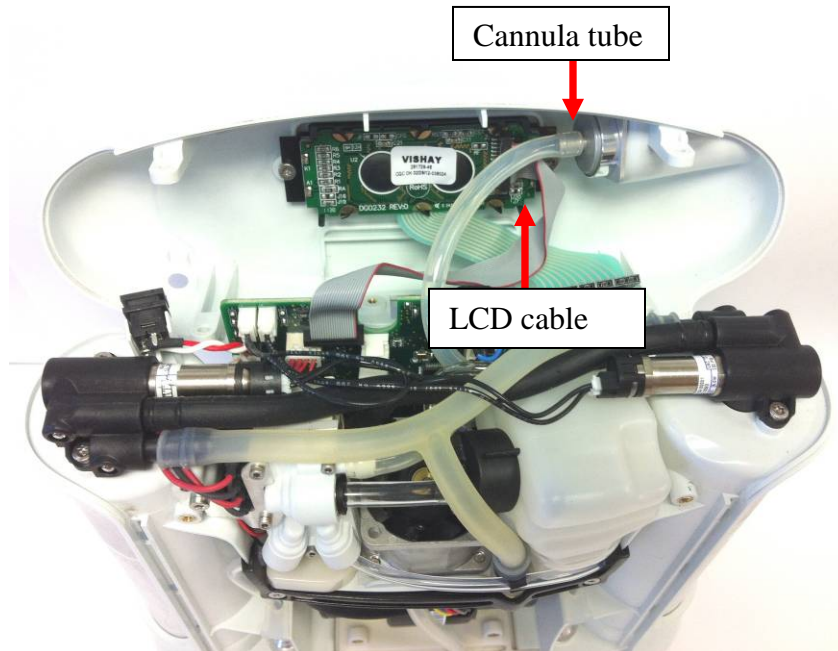

Figure 8: Remove cannula tube and LCD cable from user interface panel
3. Gently unplug the cannula tube and the LCD cable from the user interface panel (Figure 8). Remove the user interface panel.
5. Re-attach the cannula tubing to the cannula connector (Figure 8).